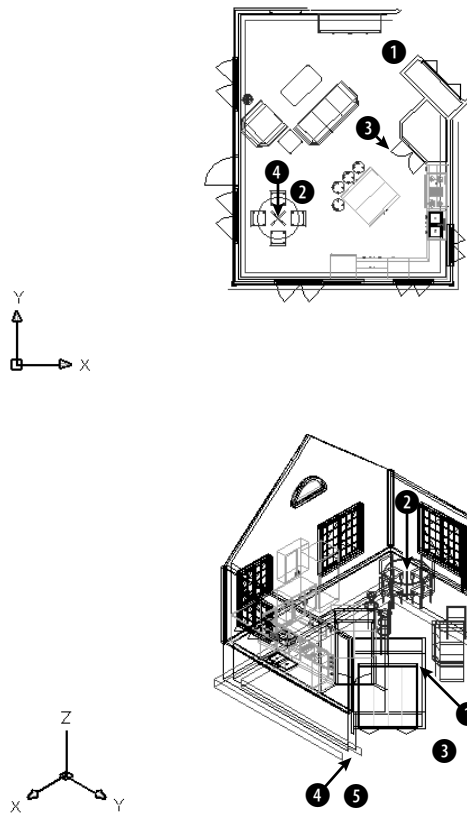

Figure 22-33: A 3D house in plan view.
2. Save it as ab22-03.dwg in your AutoCAD Bible folder. This is a portion of a 3D house in plan view, as shown in Figure 22-33. Make sure that OSNAP is on. Set a running object snap set for endpoint and turn off any other object snaps.
3. You want to create a perspective view from approximately ❶ to ❷ in Figure 22-33. You can see right away that the wall near ❶ will need clipping. To get the distance of the clipping plane from the target, choose Tools ⇨ Inquiry ⇨ Distance and pick ❸ and ❹. The pertinent information is Distance = 12'-5 9/16". You may get a slightly different distance. To see the distance information, press F2 to open the Text window.